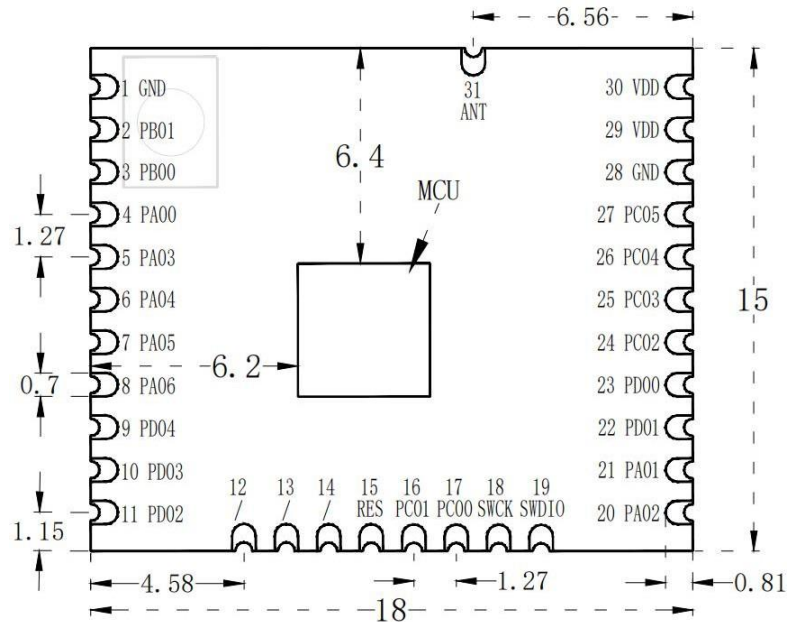

Figure 6-1 Mechanical dimension drawing
- a) Check the humidity card (as shown in Figure 6-1): the displayed value should be less than 20% (blue); If > 30% (red), it means that the module has absorbed